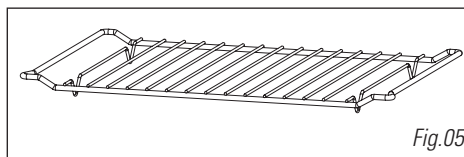

Fig.05
- **The grill (*Fig.05*):** may be used to toast, brown or grill. The grill must under no circumstances be used with other metal containers in the microwave, grill + microwave or fan cooking + microwave functions. You may, however, heat food in an aluminium tray by using a plate to separate it from the grill.